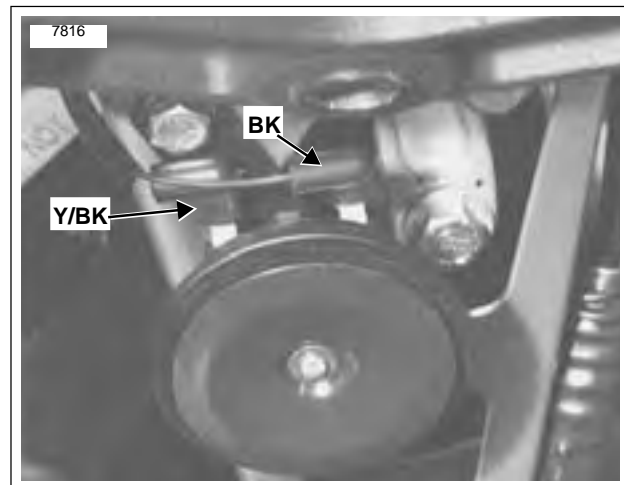

Figure 7-102. Horn Connector [122]
26. See Figure 7-102. Feed horn wires through frame hole on right side and install connector [122] to horn. Cable tie wires to isolator mount.